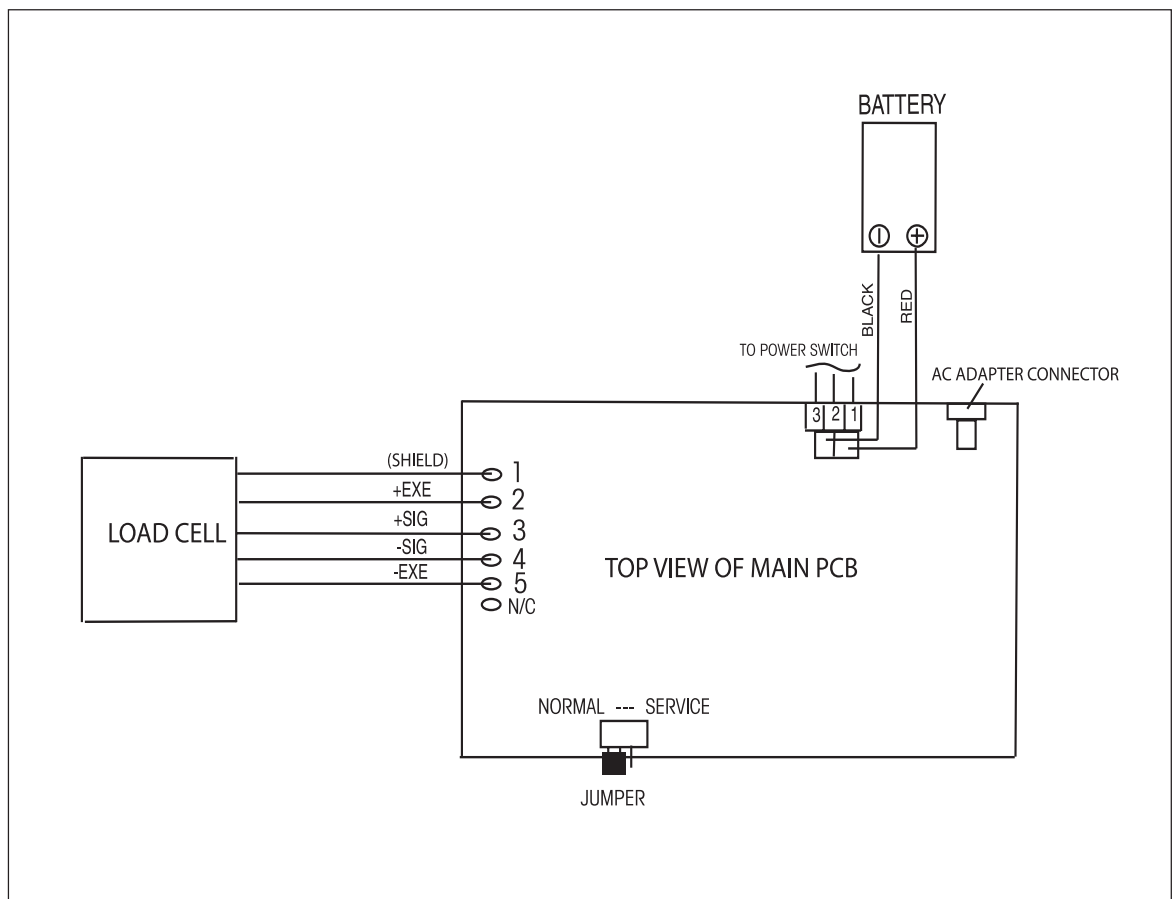

Figure 3-2. EB Series Scales Interconnection Diagram.
2. Refer to Figure 3-2 and record color code and position of the wires from the Load Cell.
2. Load Cell solder contacts can be used as measuring points. See Figure 3-2.
- Refer to Figure 3-2 and measure the voltages on points 3 and 4, +SIG and –SIG points. These measurements represent the output of the Load Cell. Repeat measurements at 50% and full scale capacities. See Table 3-3 for typical readings.
6. Refer to Figure 3-2, Interconnection Diagram which illustrates the interconnections to the Main PC Board and is shown as a top view.
9. Measure incoming power from the AC Adapter connector shown in Figure 3-2. The voltage should read above 6 Volts dc with power on.
4. Unsolder the Load Cell cable from the Main PC Board. Refer to Figure 3-2 for location.